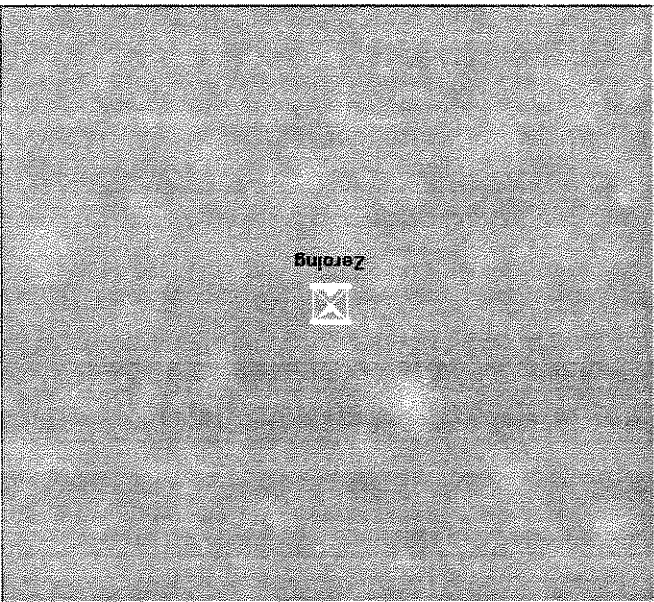

Figure 42 Zeroing Screen
- 3 Move to the <Zero> option to zero the current power measurement channel or the <Zero All> option to zero all power measurement channels. You will see the screen shown in Figure 42, this appears for around 30 seconds while zeroing is performed.